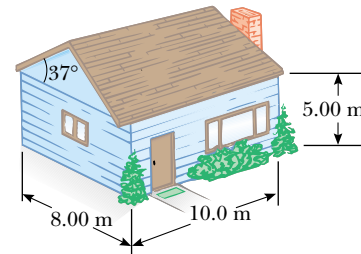

Figure P20.68
68. The average thermal conductivity of the walls (including the windows) and roof of the house depicted in Figure P20.68 is $0.480 \text{ W/m}\cdot^\circ\text{C}$, and their average thickness is 21.0 cm. The house is heated with natural gas having a heat of combustion (that is, the energy provided per cubic meter of gas burned) of $9\,300 \text{ kcal/m}^3$. How many cubic meters of gas must be burned each day to maintain an inside temperature of 25.0°C if the out-